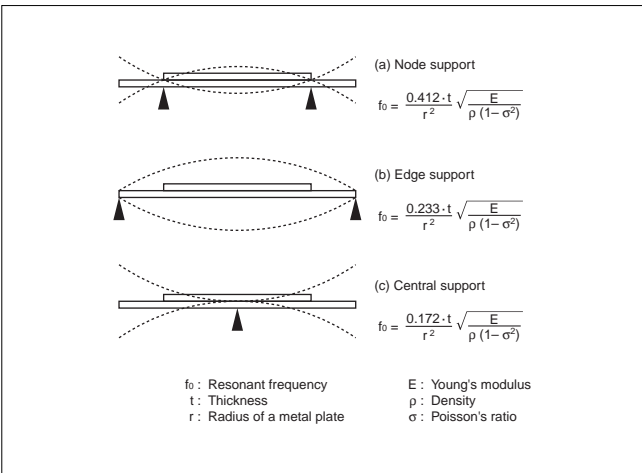
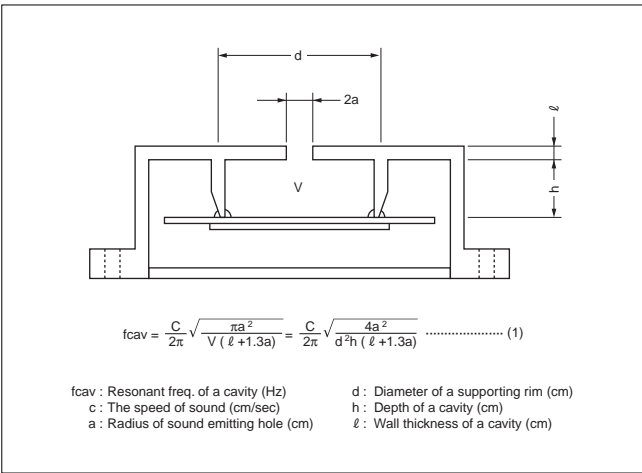

Fig. 3 Supporting Method
Fig. 4 Sectional View of a Cavity
In general, man's audible frequency range is about 20 Hz to 20kHz. Frequency ranges of 2kHz to 4kHz are most easily heard. For this reason, most piezoelectric sound components are used in this frequency range, and the resonant frequency (f_0) is generally selected in the same range too. As shown in Fig. 3, the resonant frequency depends on methods used to support the piezoelectric diaphragm. If piezoelectric diaphragms are of the same shape, their values will become smaller in the order of (a), (b) and (c). In general, the piezoelectric diaphragm is installed in a cavity to produce high sound pressure (Fig. 4). The resonant frequency (f_{cav}) of the cavity in Fig. 4 is obtained from Formula (1) (Helmholtz's Formula). Since the piezoelectric diaphragm and cavity have proper resonant frequencies, (f_0) and (f_{cav}) respectively, sound pressure in specific frequencies can be increased and a specific bandwidth can be provided by controlling both positions.
Fig. 9 shows a typical application of the self drive method. The piezoelectric diaphragm provided with feedback electrode shown in Fig. 9 (i) is involved in the closed loop of a Hartley types oscillation circuit. When the frequency is closed to the resonant frequency, the circuit satisfies oscillating conditions, and the piezoelectric diaphragm is driven with the oscillating frequency. Fig. 9 (ii) shows a simple oscillating circuit consisting of one transistor and three resistors. In general, the node support shown in Fig. 3 (a) is popular in the self drive method. Proper resonance of the piezoelectric diaphragm by the node support provides stable oscillation with high mechanical Qm of vibration but also a single high pressure tone.
In addition to the previous methods based on the electrical circuit, it is also possible for Piezoelectric sound components to raise up S.P.L. by using a resonant cavity based on Helmholtz's Formula in Fig. 4 of Page 3. Concerning these items, please feel free to contact the sales division.